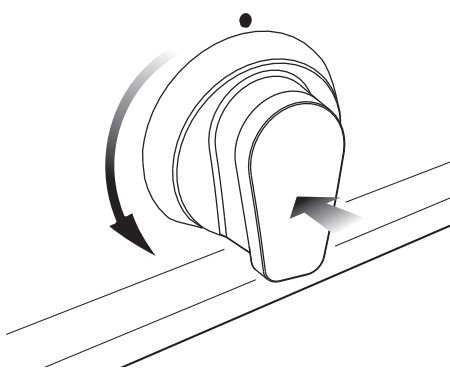

Fig. 2.4
1. Push and turn the knob in an anti-clockwise direction up to the position **Hi*** (maximum rate of inner + outer crown); push in and hold the knob until the flame has been lit (fig. 2.4).
2. Push and turn the knob in an anti-clockwise direction up to the position **Hi*** (maximum rate of inner + outer crown); push in and hold the knob until the flame has been lit (fig. 2.4).